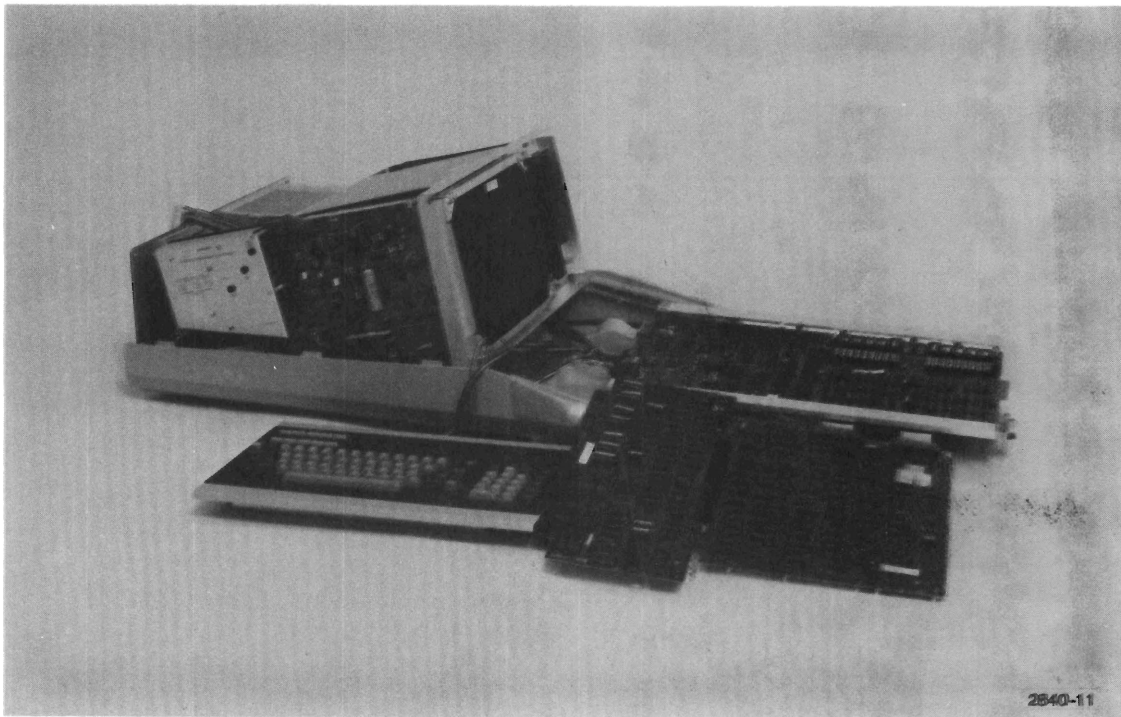

Figure 3-20. Service Layout for CPU Board and Memory Board.
6. To service the boards, place an insulating pad over the front lip of the 4052 chassis to keep the boards from shorting to the chassis. See Figure 3-20. Use a pink polyethylene shipping bag or similar material material that doesn't develop electrostatic charges. Paper can develop dangerous charges and should not be used. Unfold the boards, keeping the interconnecting cables connected and place them alongside on insulating material. Reconnect the cables from the 4052.